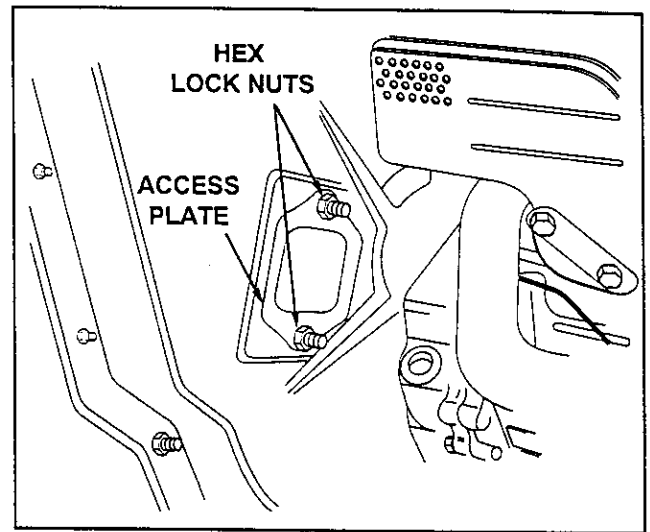

FIGURE 38
- Remove the access plate by removing two hex lock nuts. See figure 38.